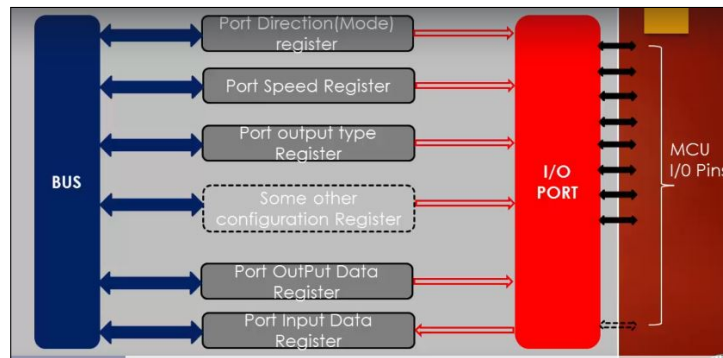

Figure 2.8: Output push pull state with LED
In general in any MCU, each GPIO port is configured from a set of registers. Each register has a specific function, and all these registers communicate through a bus to the processor of the MCU. A generic block diagram is shown in Figure 2.8
- Each GPIO port has a set of configuration registers as stated in Figure 2.8